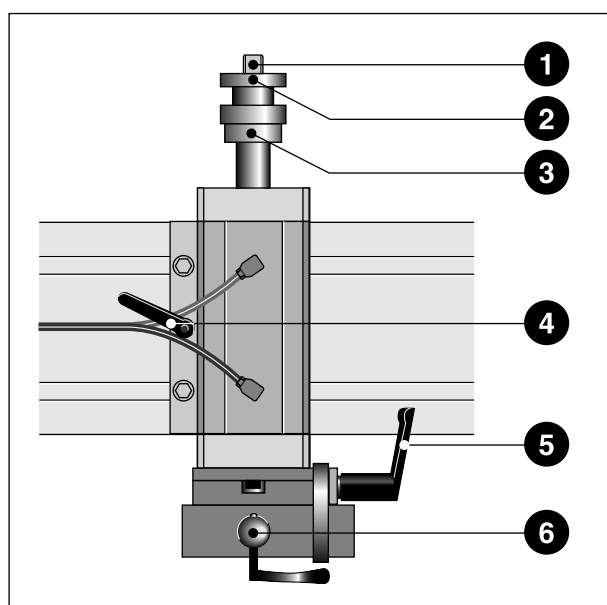
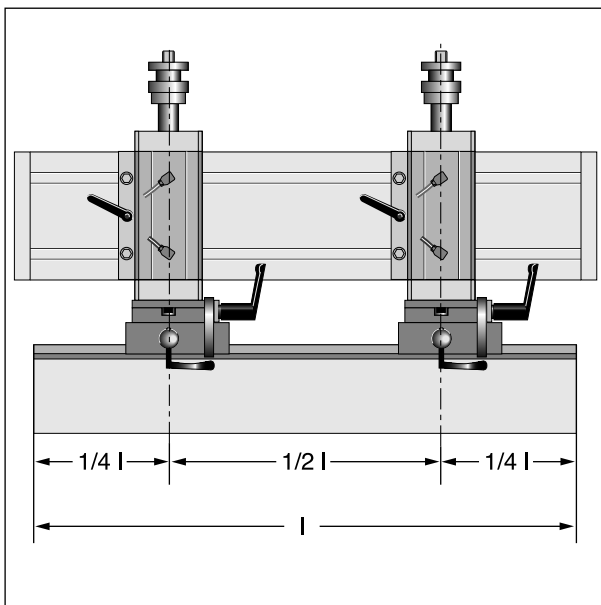

Figure 5-8. Flood bar cylinder
Figure 5-9. Installing the squeegee
- \* Open the clamping levers (4, Figure 5-8) and move the squeegee cylinders to the positions shown in Figure 5-9.